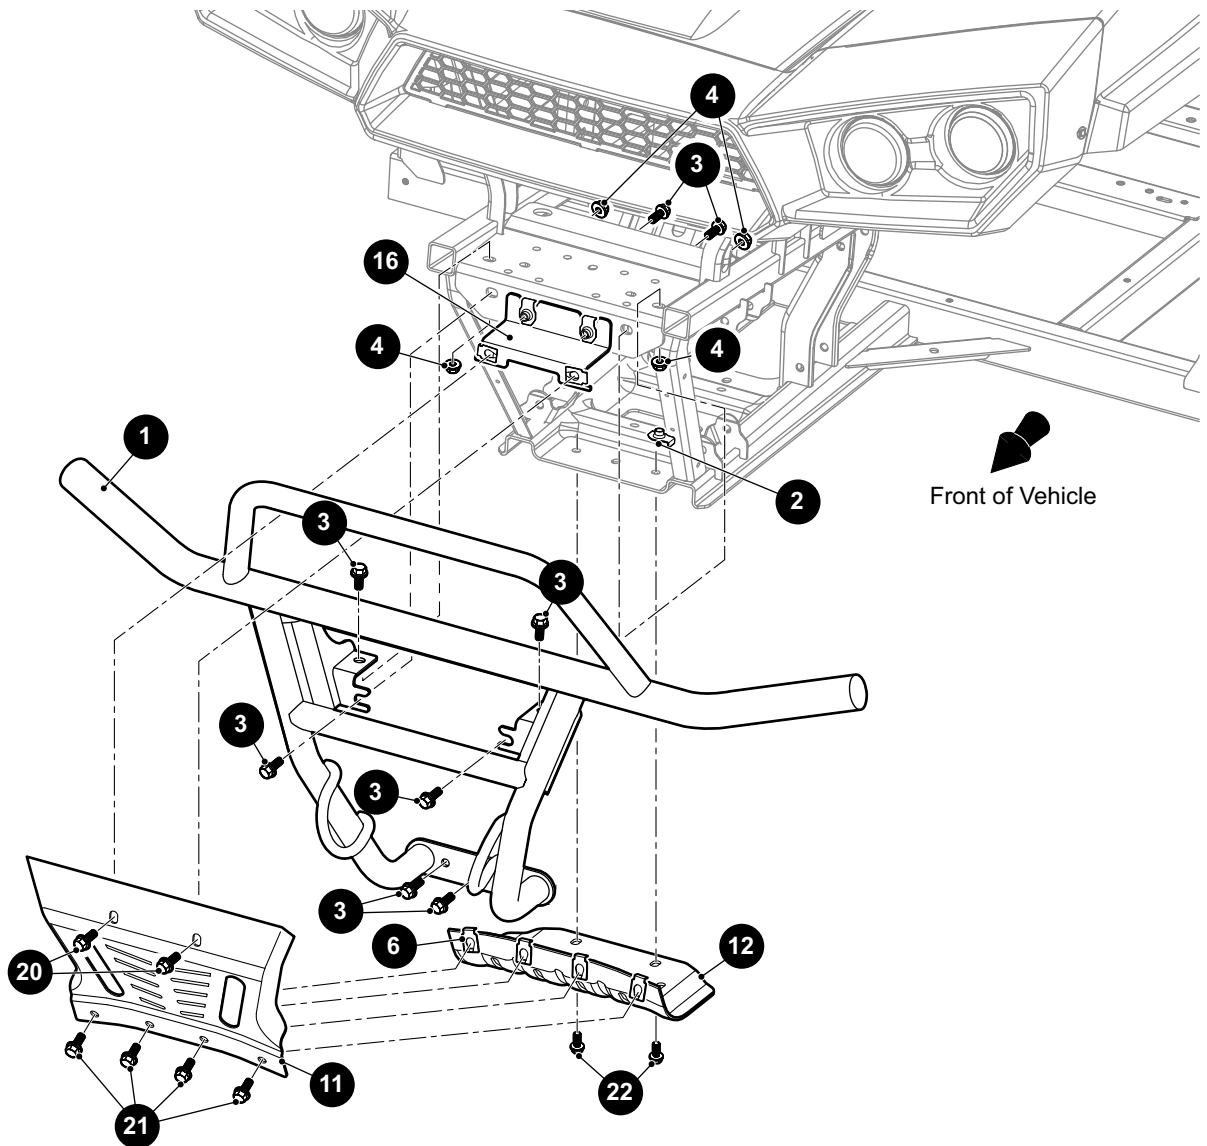

Fig. 4 Premium Brush Guard
1. Remove the two bolts (20) that secure the upper shield (11) to the shield mounting bracket (16) (See Fig. 4).
2. Remove the four bolts (21) that secure the upper shield (11) to the lower shield (12). Remove the upper shield (11).
3. Remove the two bolts (22) that secure the lower shield (12) to the frame. Remove the lower shield (12).
4. Remove the bolts (3) and nuts (4) that secure the brush guard (1) to the bracket (2).
5. Remove the bolts (3) and nuts (4) that secure the brush guard (1) to the frame.